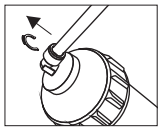

Fig. 1
- 1) Remove safety clips out of quick connector (Fig. 1).